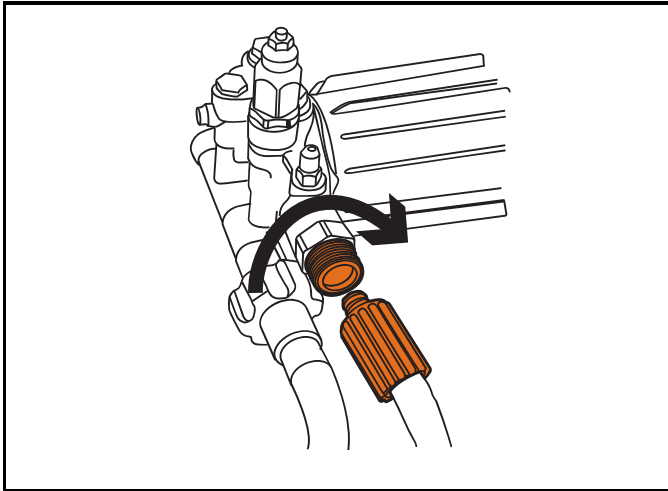

Figure 4-15. Connect High Pressure Hose to Pump
6. Connect high pressure hose to pump (uncoil hose before connecting to pump or spray gun) (Figure 4-15). Tighten by hand.